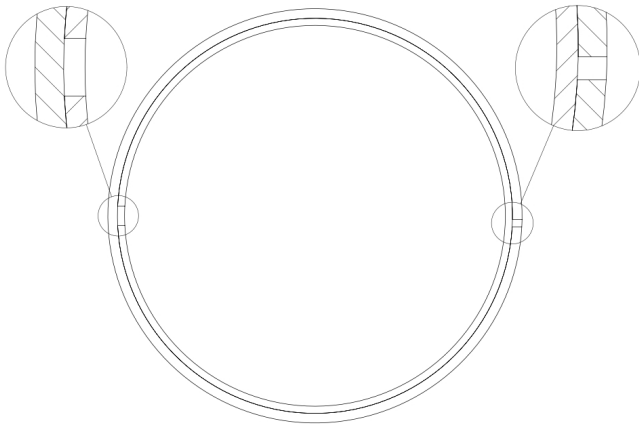

Figure 13 - Piston Ring Installation
3. Ensure that the ring cuts are diametrically opposed (180 degrees apart) - (see Figure 13).